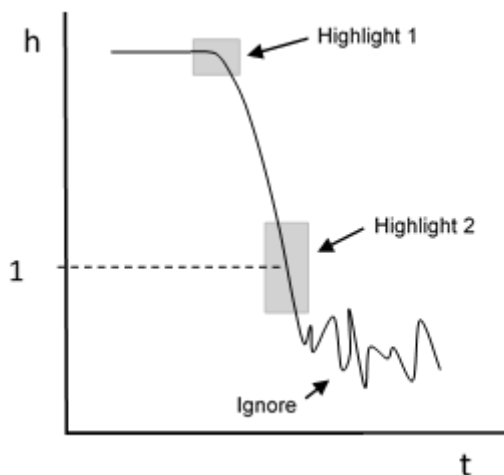

Figure 3 - h vs. t graph
- d. You want to get a smooth curve in the top and mid section of your graph as shown in Figure 3. If you don't then repeat the measurement focusing on getting your hand out of the way of the sensor as soon as you release it.
- G) Highlight the graph in the area for when you released the bag. **See Highlight 1 in Figure 3**. There are two shades of highlighting on this software. The darker shade should be like the one in the figure above. This happens when you move the mouse in 2 dimensions on the screen.
- I) Highlight the graph in the area for when the bag is at 1 meter. **See Highlight 2 in Figure 3**. Make sure you highlight the line from *at least* 1.2 m to 0.8 m.